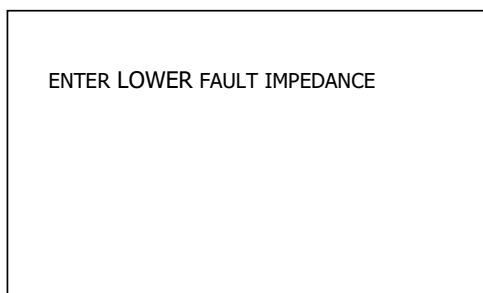

Figure 3-7
Step 4 – Select MINIMUM OHMS by moving the cursor to that line and press any \blacktriangleright key. This will open a number entry screen as shown in figure 3-7.